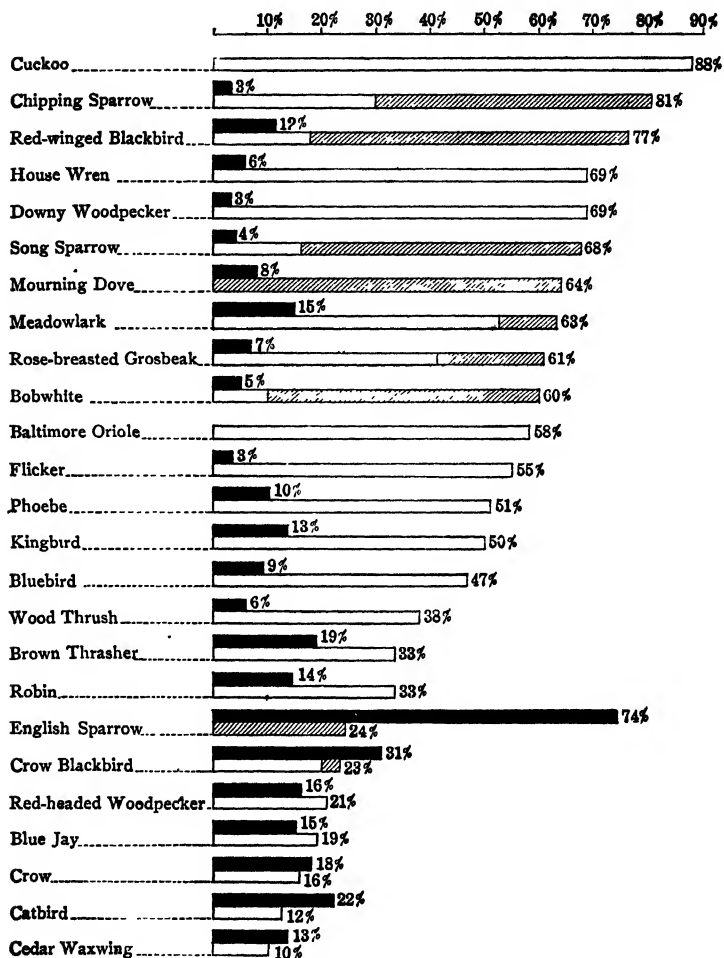

FIG. 183. — Food Chart of 25 Common Birds.
12. Arrange the birds according to the ratio between the good and harm done. Place the cuckoo and oriole at the head of the list. For the others divide the percentage of good done by the percentage of harm done. For example, for the chipping sparrow divide 81 by 3 (27). Do the same with the others and arrange them in order, the bird with the largest number first. Which five birds stand first in the list? . Which five last?
13. (Optional.) If you wish you may make a chart from this table similar to the one in Figure 183. This chart is to represent the ratio between the good and harm done. Let one inch represent 5. Then for the chipping sparrow draw a line $5\frac{1}{3}$ ($\frac{27}{5}$) inches long. In a similar way draw lines for the other birds, arranging them in the order of the length of the line, the longest first. Make the lines for the cuckoo and oriole two inches and one inch, respectively, longer than that for the chipping sparrow.